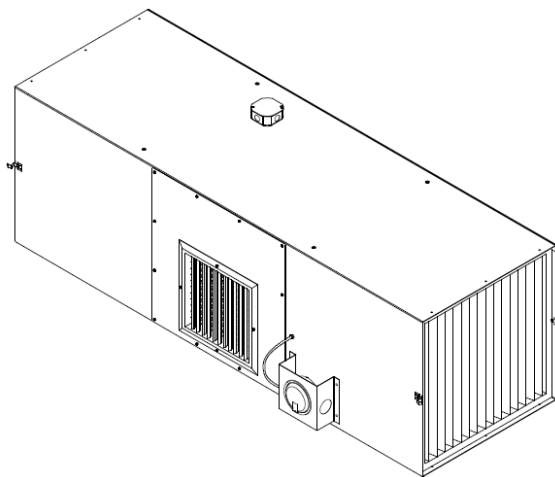

FIG. 6
4. Mount the bracket using the (4) self-tapping screws.
5. Using  $\frac{1}{4}$ " clear tubing connect the "LOW" pressure port on the gauge to the pre-installed barb fitting on the unit. The "HIGH" pressure port stays disconnected (See FIG. 6).